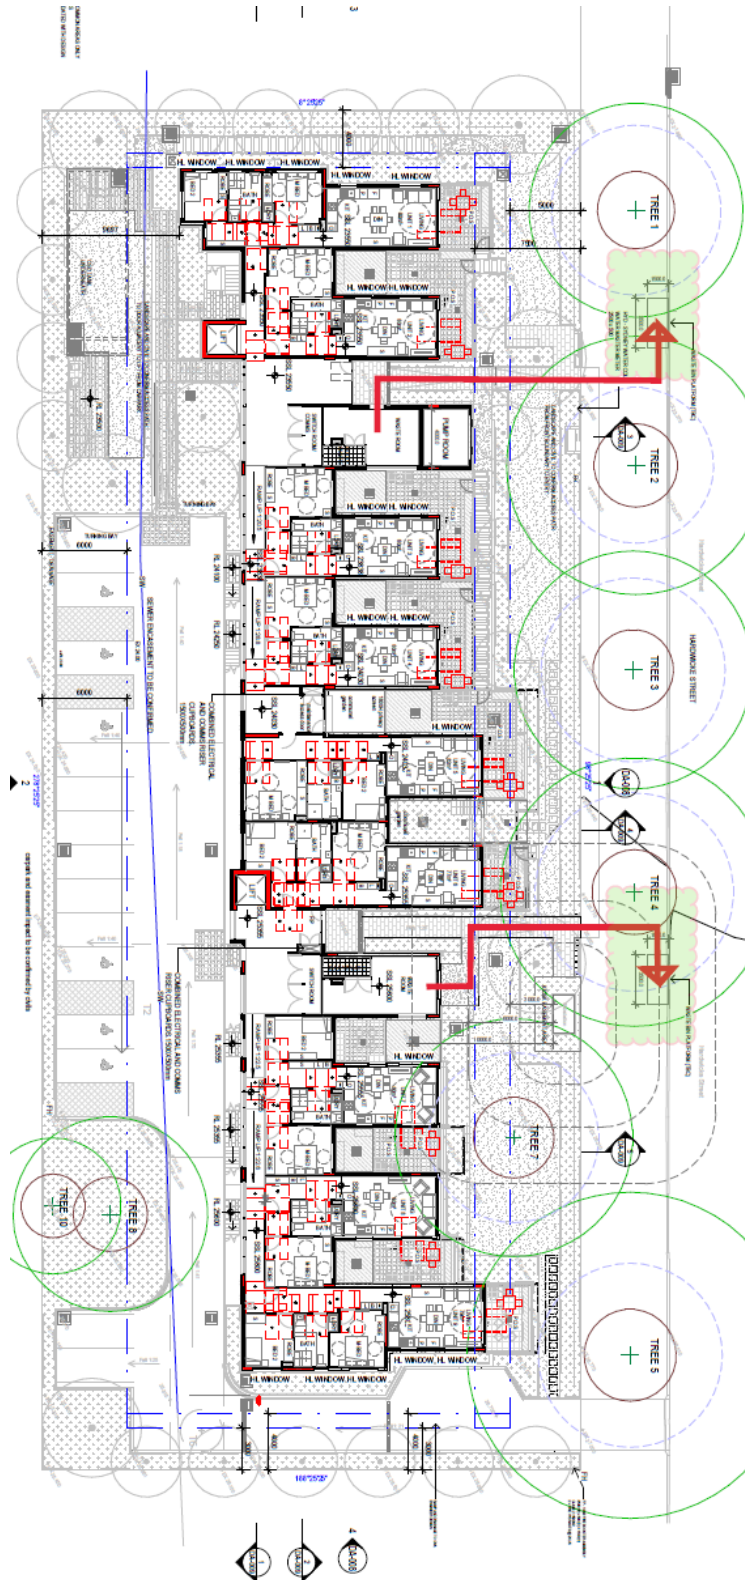

Figure 3 Proposed Bin carting routes.
The proposed bin carting route for the two (2) waste areas are as detailed in Figure 3 below.